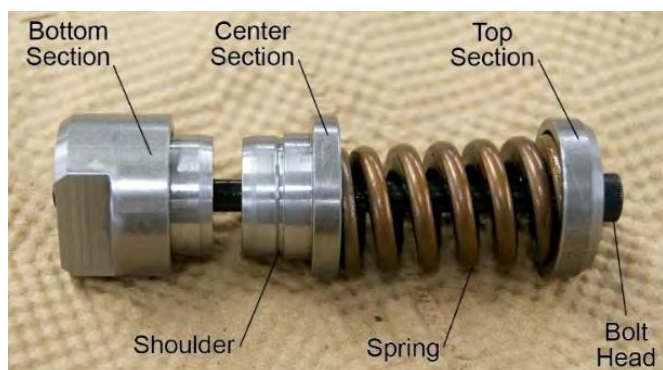

Figure 12
1. Remove the bottom section from the ST-531, Connecting Rod Bushing Press-Out Verification Tool (Figure 12) (available from Lycoming Engines).